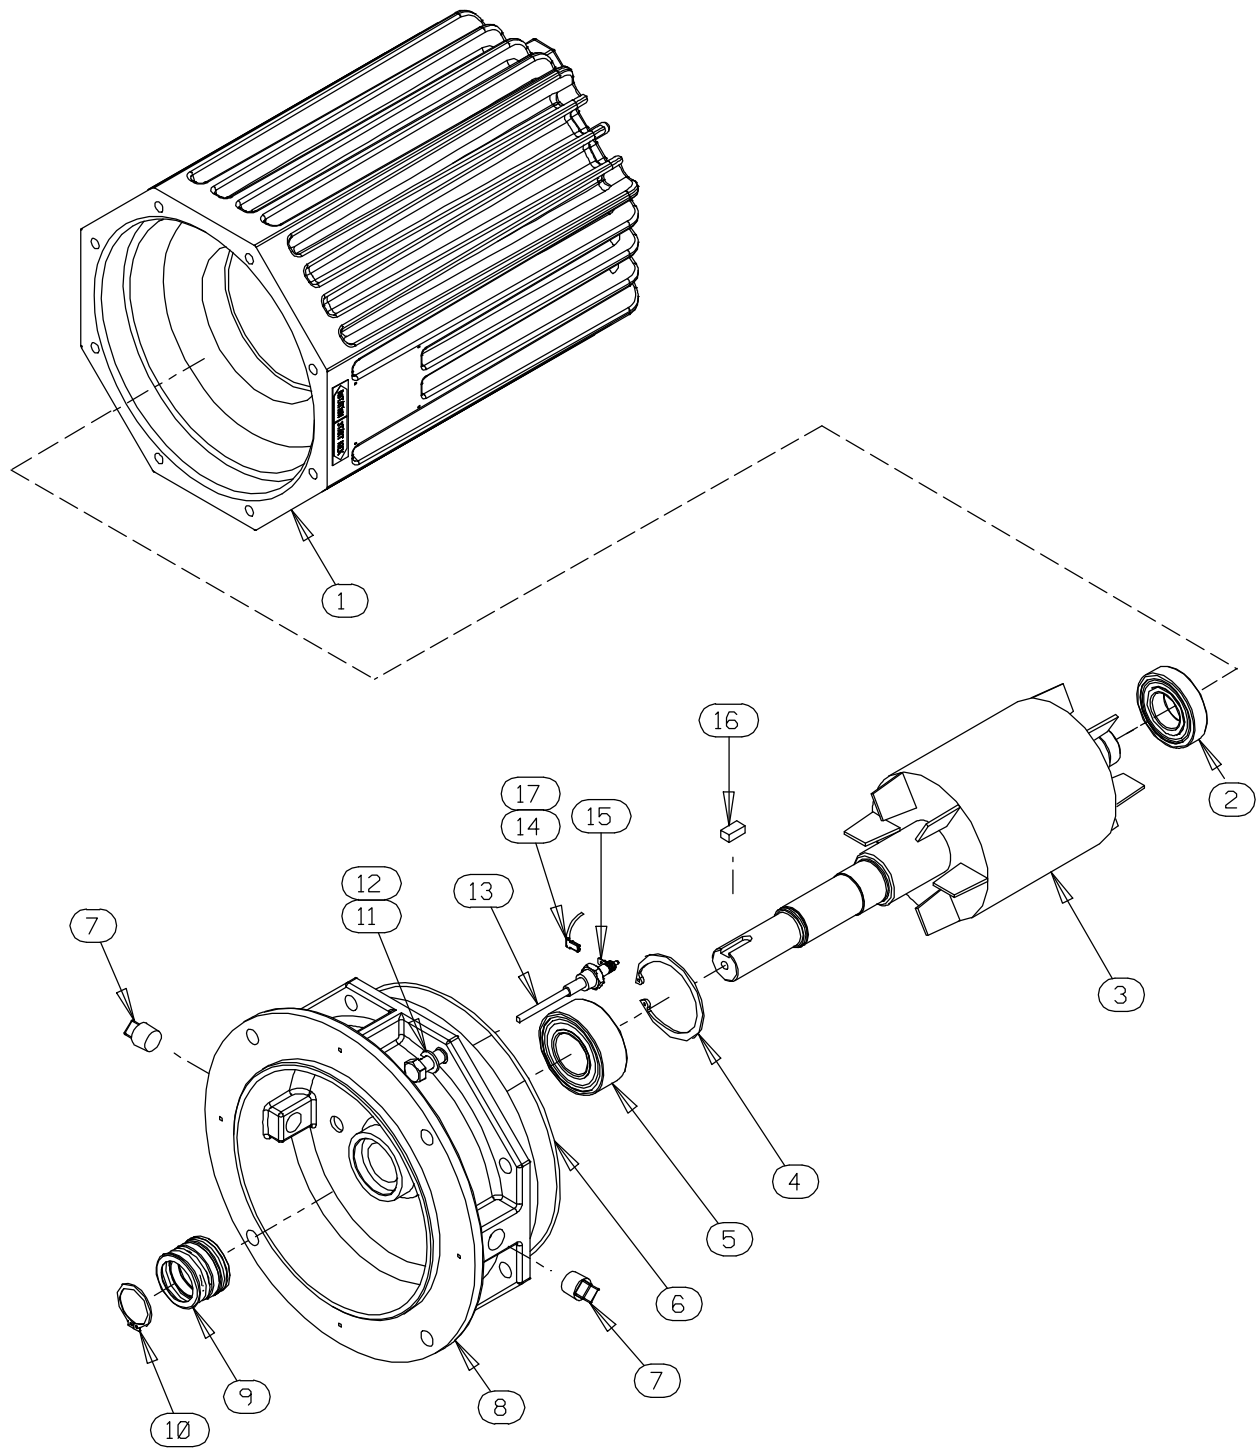

Figure E-2. 47111-810, -811, -812 and -855 Motor Assemblies
(Figure E-2)
To remove the impeller, use two thin-bladed screwdrivers positioned 180° apart to pry on the back of the impeller and “walk” the impeller off the shaft. Use increasingly larger screwdrivers (or wedges) as necessary. After the impeller comes free of the shaft, retain the impeller key (16, Figure E-2).
An alternate method of removing the stationary element is to remove the screws (17) securing the seal plate (15) to the motor assembly (7). Pry the assembled seal plate and stationary element off the shoulder of the intermediate (8, Figure E-2). Remove the O-ring (6) and press the stationary element and seat out of the seal plate from the back side.
(Figures E-2 and E-3)
Inspect the rotor shaft (3, Figure E-2) for damaged threads, scoring, or nicks. Remove nicks and burrs with a fine file or hand honing stone to restore original contours. If the shaft is bent or severely damaged, the rotor and shaft must be replaced as an assembly (see **MOTOR DISASSEMBLY**).